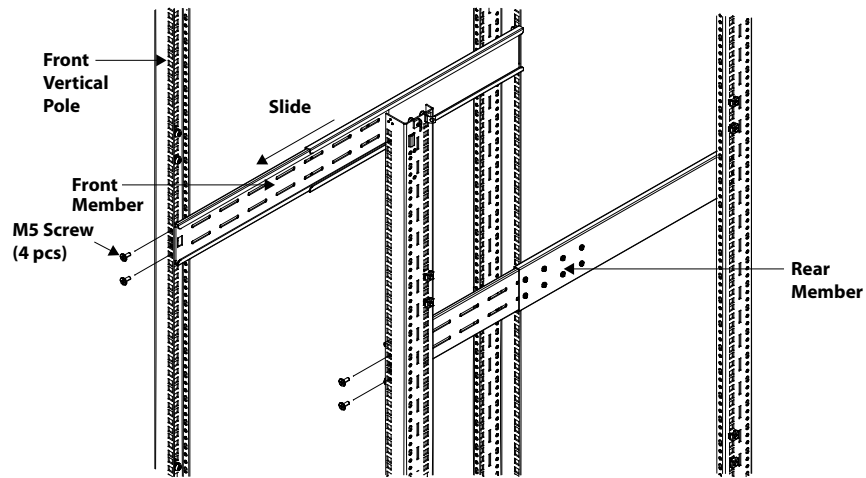

Figure 10: Installing front member of each slide rail assembly
5. Extend the slide rail assembly by sliding the front member forward until it touches the rack's front vertical rails (adjustable length: 18–32 inches/457–813 mm). Use two M5 screws to fix each front member onto the front vertical rails through the installation holes. Make sure that slide rail assemblies are at the same mounting height on all four rack rails, as shown in Figure 10.